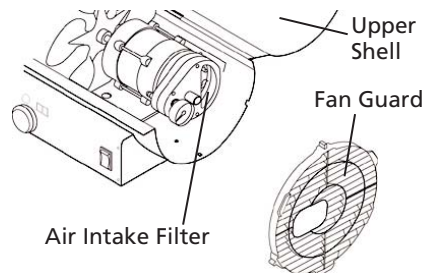

Figure 14 – Air Filter Access
- Remove upper shell and fan guard (See Air Intake Filter Figure 14).